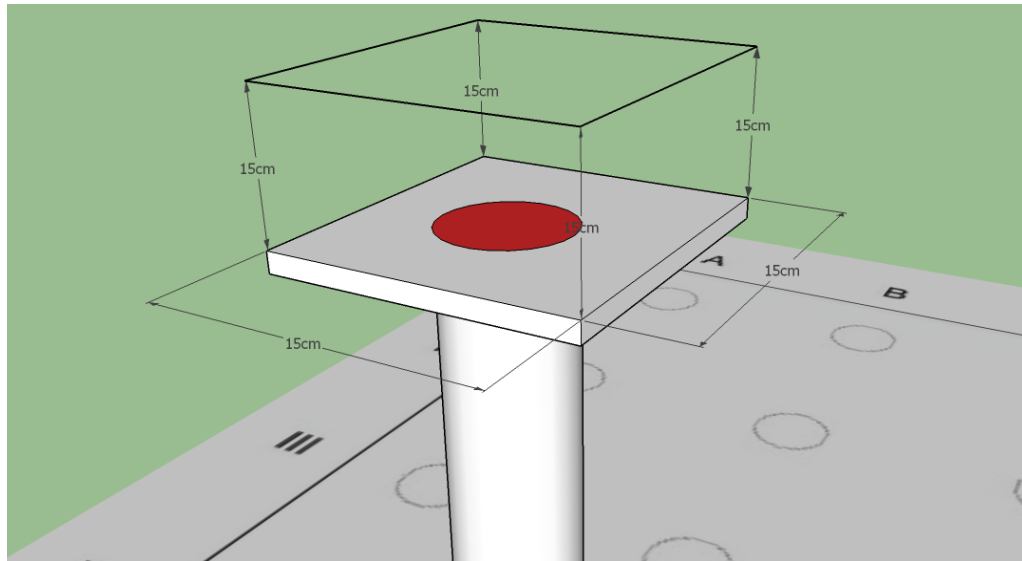

Figure 3: Flower Dimensions
- a. **Preparing the Flower:** Team has to prepare 6 Flowers in total. All Flowers should fit inside dimensions of 15cm x 15cm x 15cm (length x breadth x height). Team is allowed to design their Flowers within this space. Flower consists of Flower Base and Petals. Refer Figure 3 for more information.